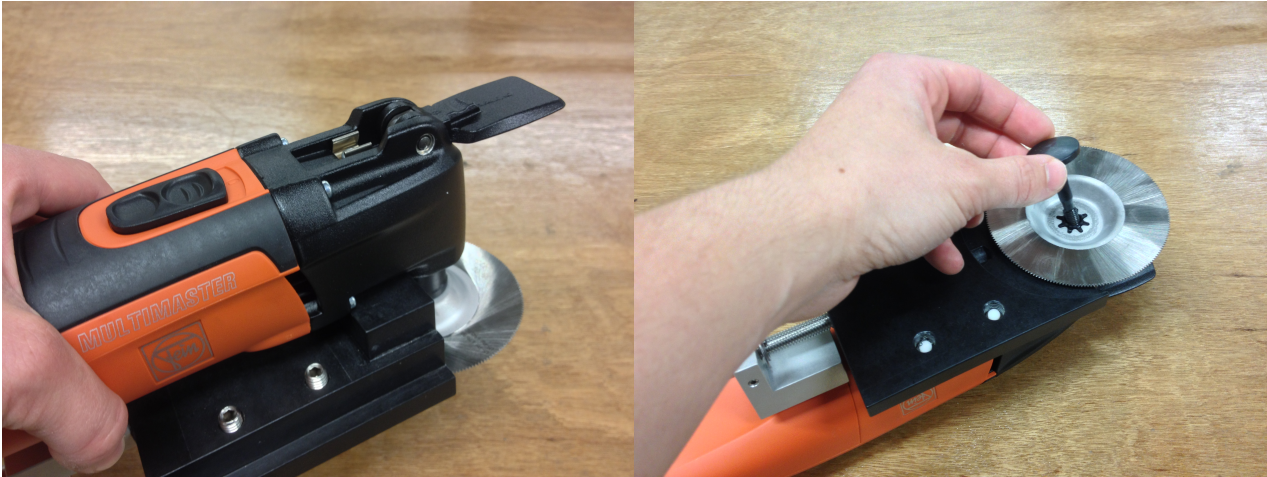

Figure 13. Removal of blade from FEIN MultiMaster cutter.
3. Lift the lever on top of the cutter so that it is flipped over approximately 180°. The black pin in the centre of the blade can now be removed and the blade removed. (Figure 13)